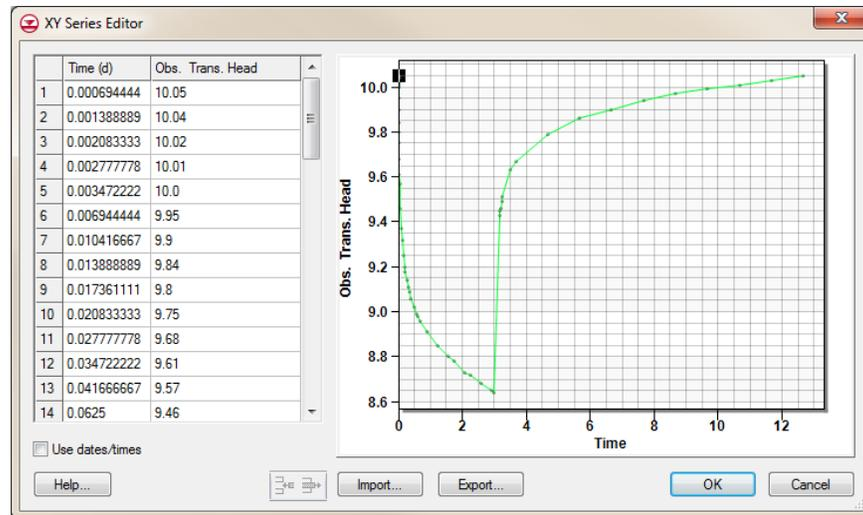

Figure 8 Time series data for well “mw - 3”
9. View the imported time series data clicking the button in the *Obs. Trans Head* column to bring up the *XY Series Editor* dialog (Figure 8).